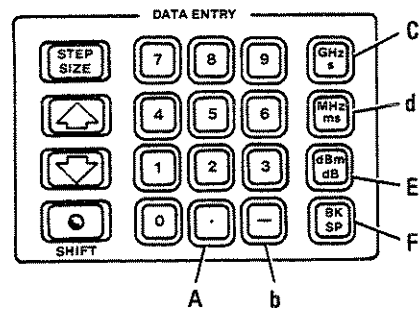

Figure 8-2. Hex Entry Keys
When the HP 8350B is in the Hex Data WRITE mode, several front panel keyboard pushbuttons function as hexadecimal digits. See Figure 8-2.
3. Enter the hexadecimal equivalent of the desired Binary number by pressing [M2] (hex write command) and then enter a two-digit hexadecimal number through the data entry keyboard. The first number will be output on D4 — D7 lines, the second on D0 — D3. Refer to Table 8-3 for a binary to hexadecimal conversion chart. Use data entry [.] [-] [GHz/S] [MHz/ms] [dBm/dB] and [BK SP] keys to enter the hexadecimal values A, B, C, D, E, and F respectively (Refer to Figure 8-2, Hex Entry Keys).